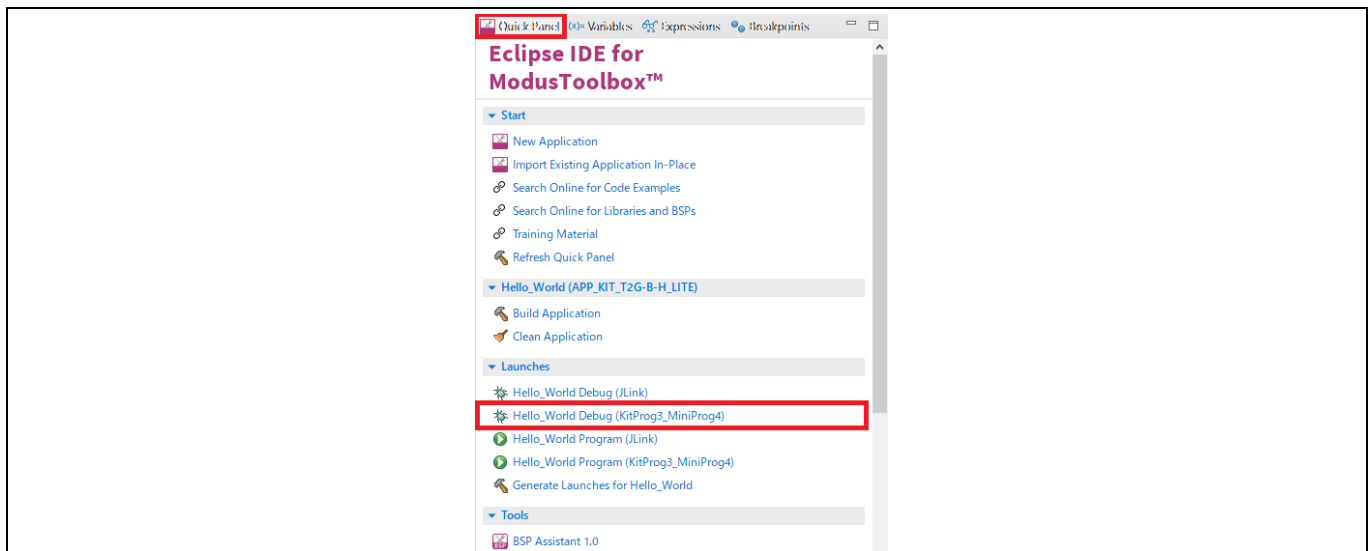

Figure 12 Debugging in ModusToolbox™ software
- ModusToolbox™ software has an integrated debugger. To debug a TRAVEO™ T2G-B-H MCU application, in the Project Explorer, select **<App_Name>** project. In the Quick Panel, scroll to the **Launches** section and click the **<App_Name> Debug (KitProg3_MiniProg4)** configuration as shown in **Figure 12**. For more details, see the “Program and debug” section in the **Eclipse IDE for ModusToolbox™ user guide**.